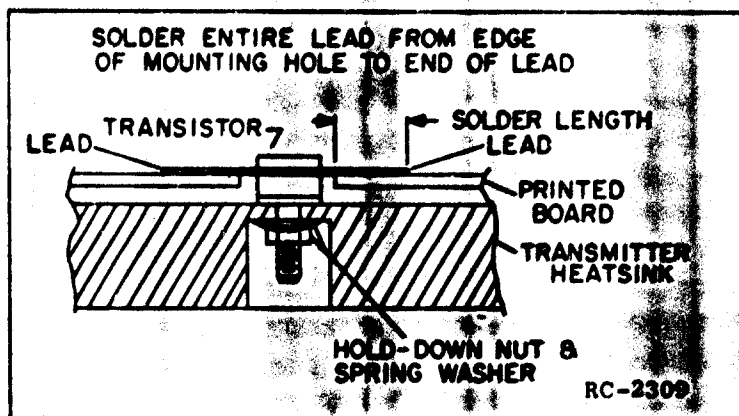

Figure 3 - Lead Forming
6. Make sure that the transistor leads are formed as shown in Figure 3 so that the leads can be soldered to the printed circuit pattern, starting from the inner edge of the mounting hole.